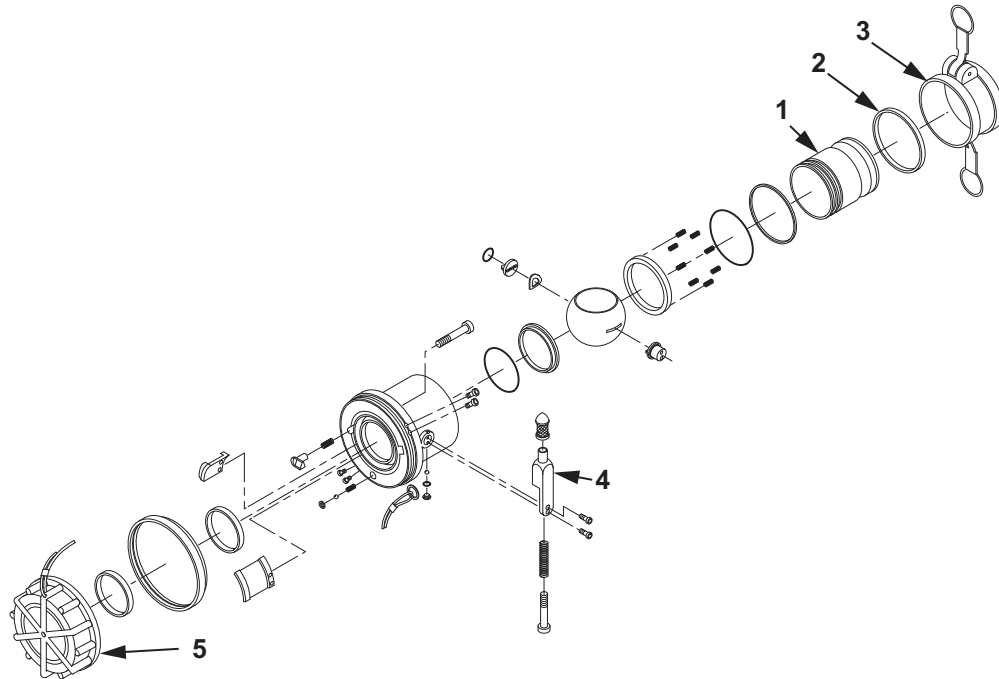

Figure 4. Valved Dry-Break Coupling Testing.
2. While the couplings are connected, rotate control arm (Figure 4, Item 4) to the open position and try to disconnect the couplings by rotating in a counterclockwise direction. If the couplings disconnect, then repair of the valved dry-break coupling assembly is required.
3. Close the control arm (Figure 4, Item 4) and disconnect the valved dry-break coupling assemblies by rotating the couplings in a counterclockwise direction.
6. With the control arm (Figure 4, Item 4) in the open position, apply pressure of 5 PSI (34.5 kPa) to the repaired valved dry-break coupling assembly.
10. Close the control arm (Figure 4, Item 4) and disconnect the repaired valved dry-break coupling assembly from the similar valved dry-break coupling assembly by rotating the couplings in a counterclockwise direction.
12. With the control arm (Figure 4, Item 4) in the closed position, apply pressure of 5 PSI (34.5 kPa) to the repaired valved dry-break coupling assembly.
15. Reduce pressure from the test system, remove repaired valved dry-break coupling assembly from the test system and install dust cap (Figure 4, Item 5).
16. Install new gasket (Figure 4, Item 2) into dust cap (Figure 4, Item 3).
17. Install dust cap (Figure 4, Item 3) on inlet adapter (Figure 4, Item 1).